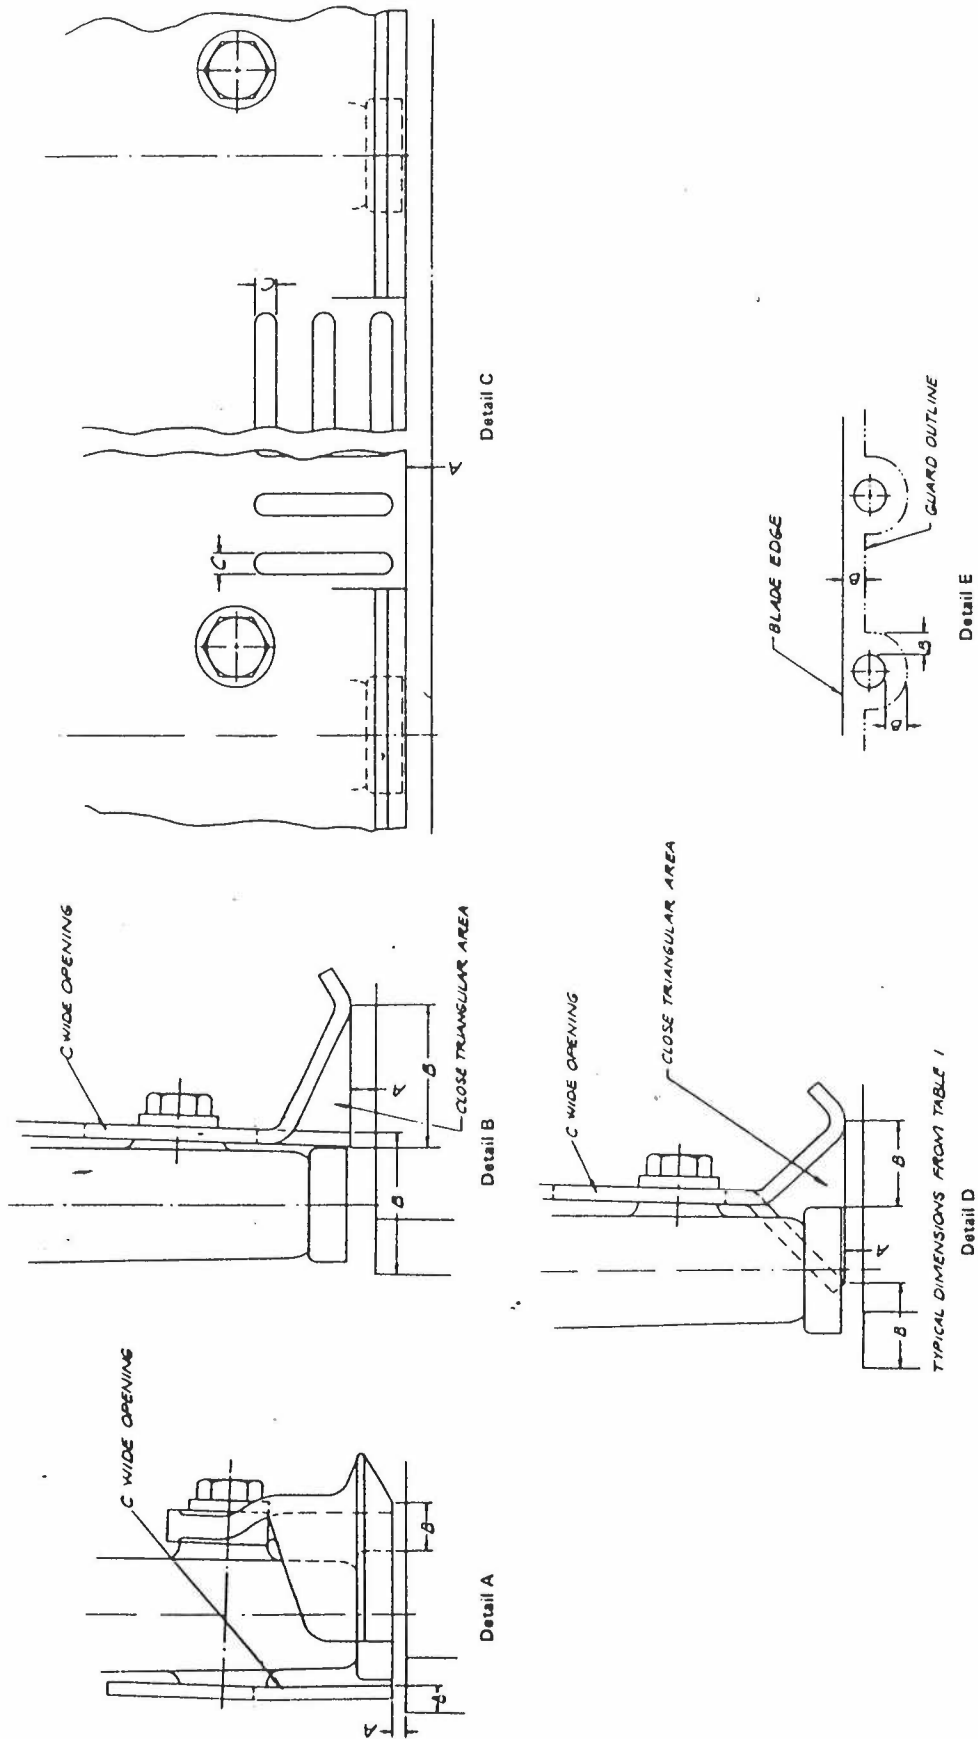

Fig. 1
- (1) It shall prevent entry of any part of the operator's body into the point of operation by reaching through, over, under, or around the guard.
- (2) Compliance with (1) can be achieved by conforming to the dimensions defined in Fig. 1 and given in Table 1.
\*See Fig. 1, Details A through E.